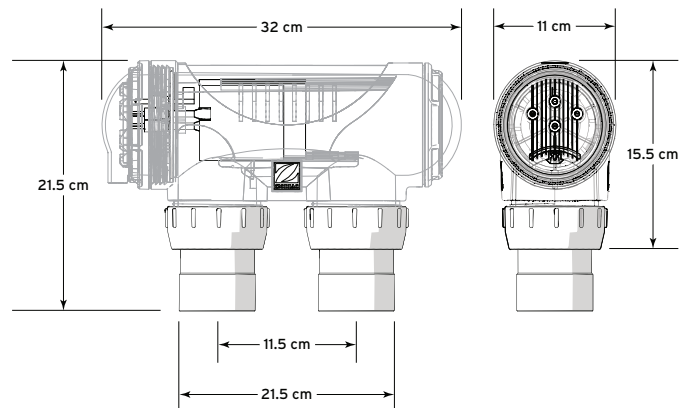
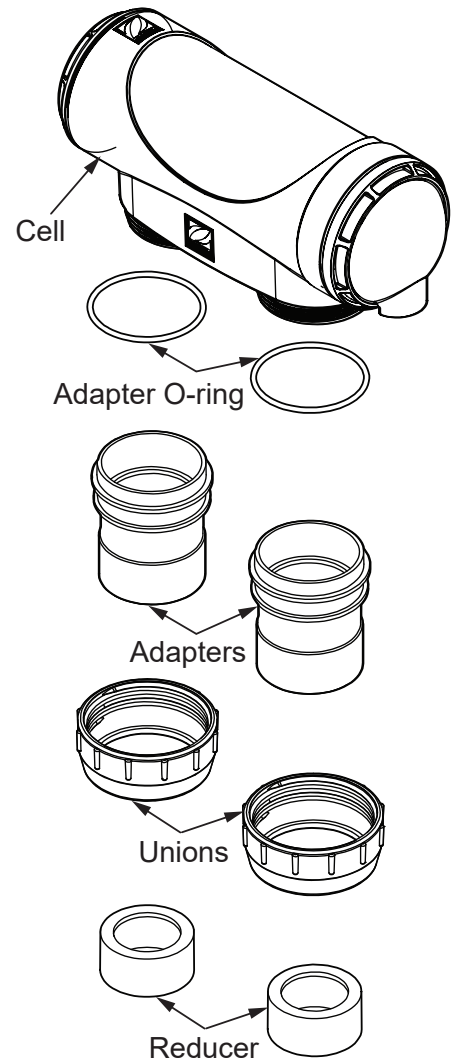

Figure 2. Electrolytic Cell Dimensions
Figure 4. Cell Plumbing Assembly
2. Plumb the cell inlet and outlet on vertical lengths of 50 mm PVC pipe (if using 40mm pipe, use the provided 40mm reducers). The cell inlet and outlet ports are 11.5 cm apart, see Figure 2. The inlet of the cell is on the side closest to the electrical lead, see Figure 4.
3. Put the unions onto the inlet and outlet pipes, see Figure 4.